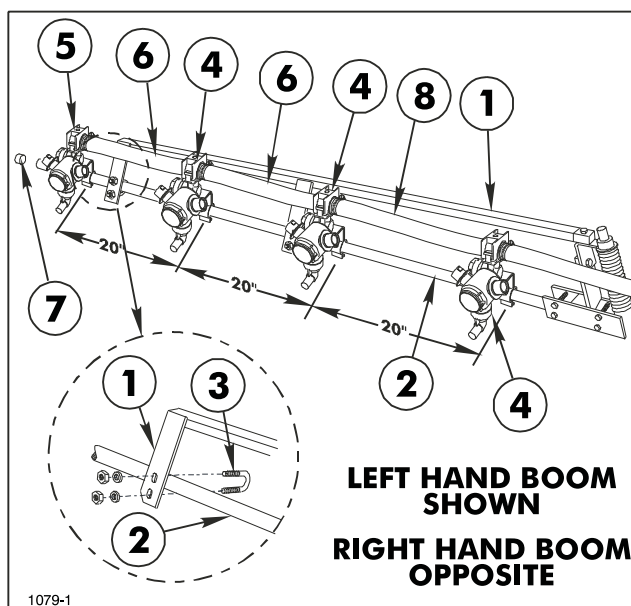

FIG. 4
16. Attach three (3) Double Barb Turret Bodies and one (1) Single Barb Turret Body with Clamp Assemblies on each Extension Boom Pipe as shown in FIG. 4.
17. Level Nozzles and space 20" apart. Connect the Turret Body Assemblies with 3/4" x 19" Jumper Hoses and a 3/4" x 21" Jumper Hose. Secure with hose clamps. (See FIG. 4)